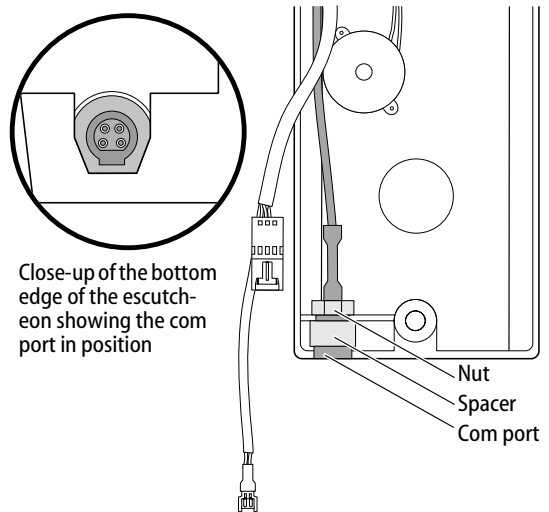

Figure 5 Connecting the sounder and com port to the outside escutcheon
- Slide the com port into place in the escutcheon and tighten the nut (Figure 5).